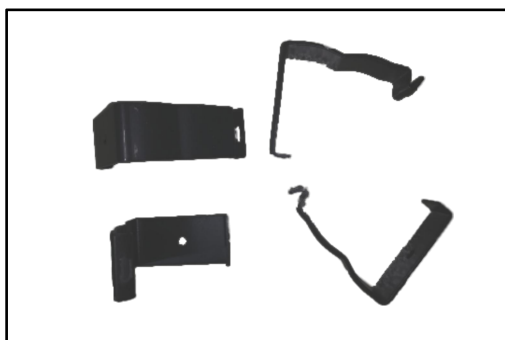

Figure 3-5 Fasteners
- (1) Remove the fasteners with a removal tool (Figure 3-4) or a flat-blade screwdriver (Figure 3-5);